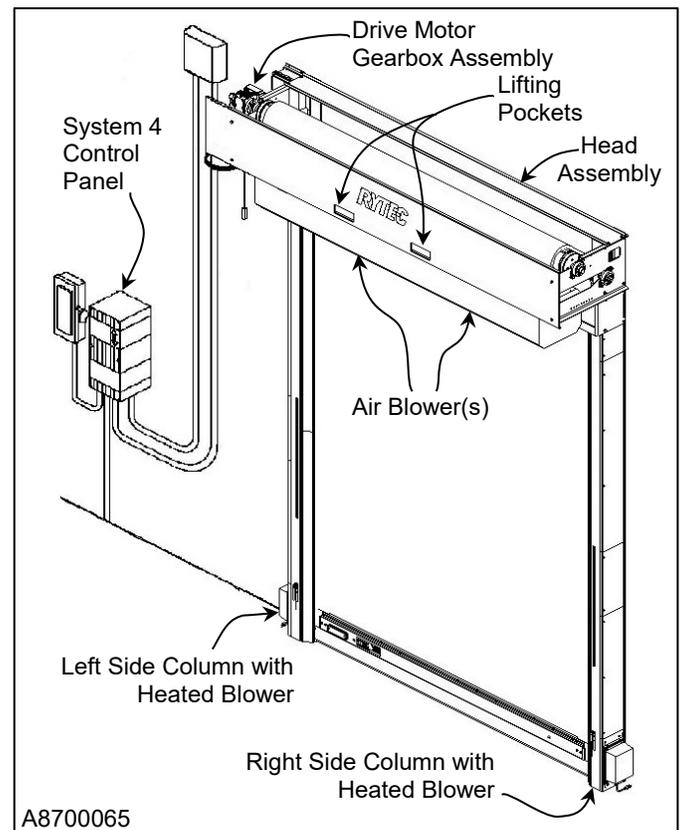

Figure 1
3. In the drive motor/head assy. (See Figure 1)